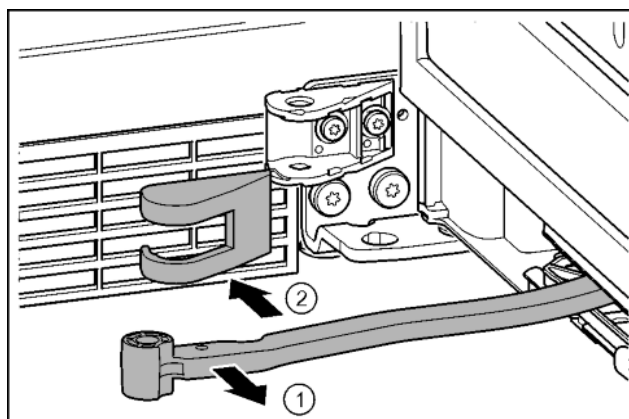

Fig. 15
- ▶ Turn the hinge in the direction of the door. Fig. 15 (1)
- ▶ Remove the bearing bracket cover. Fig. 15 (2)